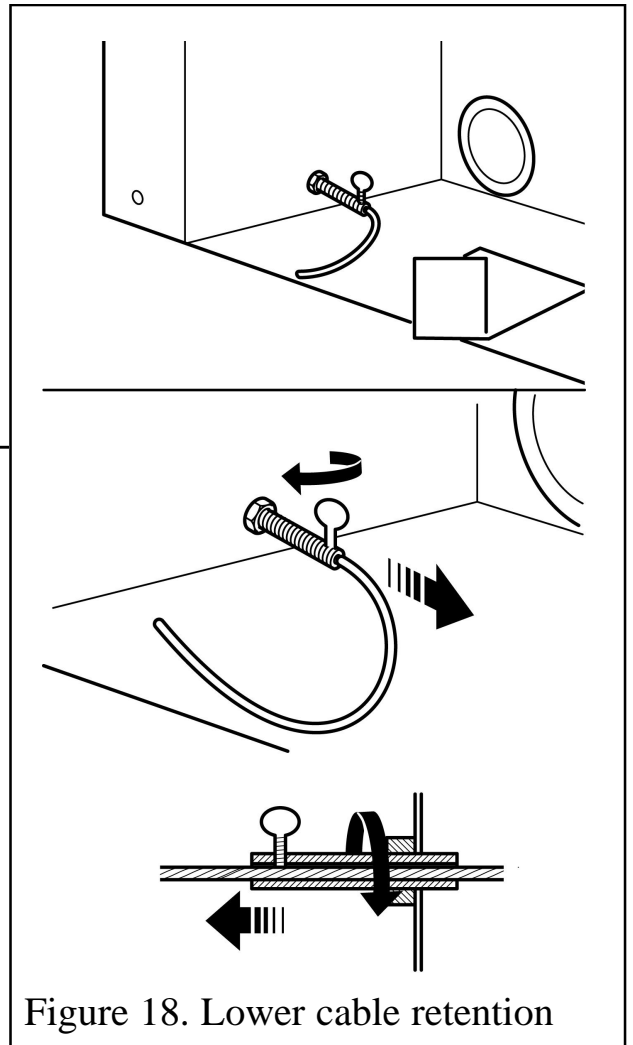

Figure 18. Lower cable retention
**9.** Pull each cable taut. Push the cable adjusters hard up against the back panel. Tighten the screws in the adjusters so that they clamp the cables in position. Apply tension to the cables by turning the hexagonal adjusters by hand (See figure 18).